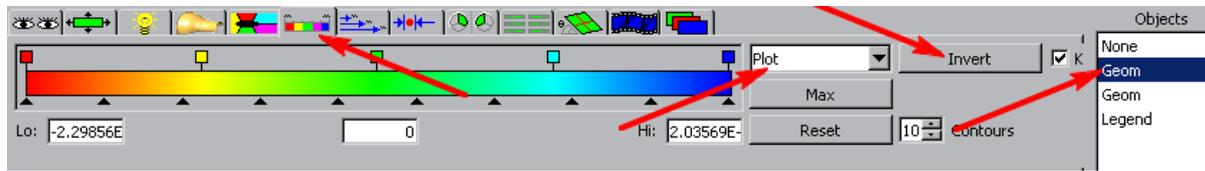
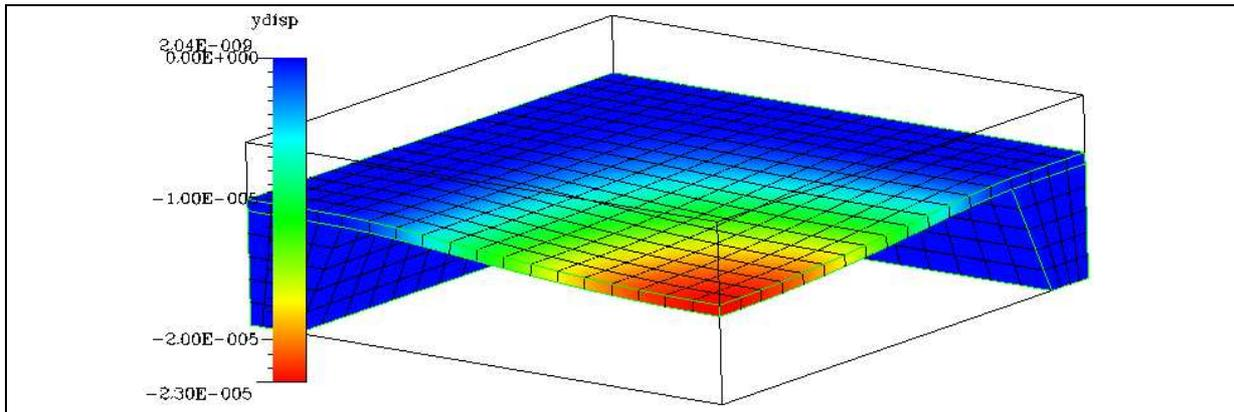

Fig.74. The *Colormap* tab of the format area—remember to select the object in the *Objects* list before modifying colormap properties
Fig.75. The view of the model—colormap modified
- Change the colormap for the drawing. To do so, first: in the *Objects* window select the *Geom* object in our case—see Fig. 74), and second: use the tools under the *Colormap* tab in the format area (see Fig. 74). Change the colorscheme from default *Plot3D* to *Plot* and click on the *Invert* button. An exemplary view of the model with the changed colormap is shown in Fig. 75.